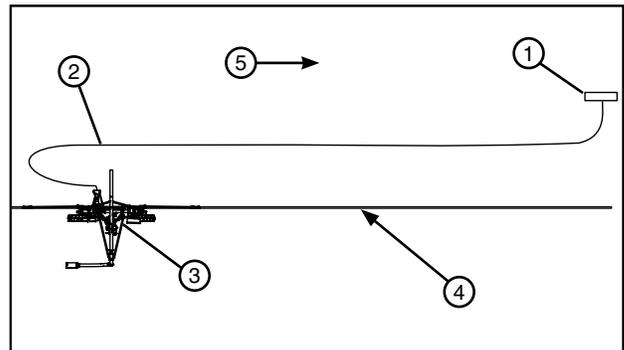

Figure 75-2 1. Power Pedestal
- (c) Position the electric cord between the cart and power pedestal so that it does not interfere with the furrow guidance arms if applicable. See Figure 75-2.